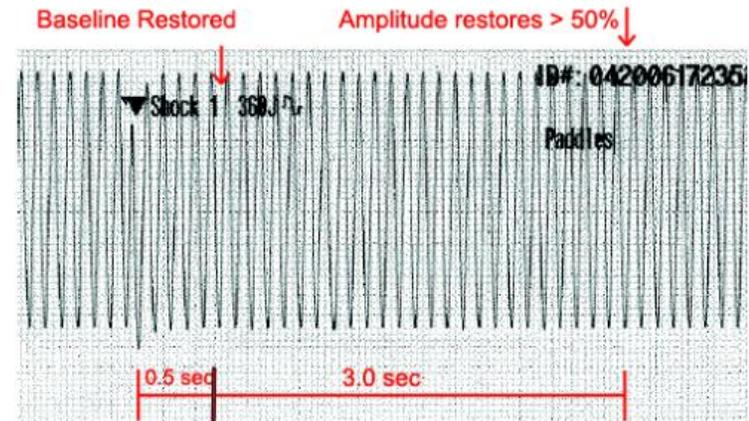

Figure 1.44—QUIK-COMBO ECG restore test printout
6. Verify the Shock # marker and Energy Delivered event marker are recorded on the Paddles printout as shown in Figure 1.44.